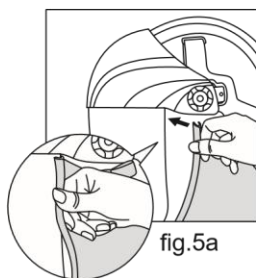

fig.5a
Step 1: Insert the U-shaped sealing layering into the edge of face shield lens. Use the thumb to press the edge of sealing layering to make it fix into the face shield lens (See fig.5a).